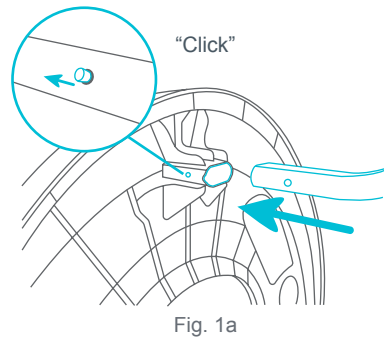

Fig. 1a
- 1 • Insert each leg into the underside of the tabletop (Fig. 1a).